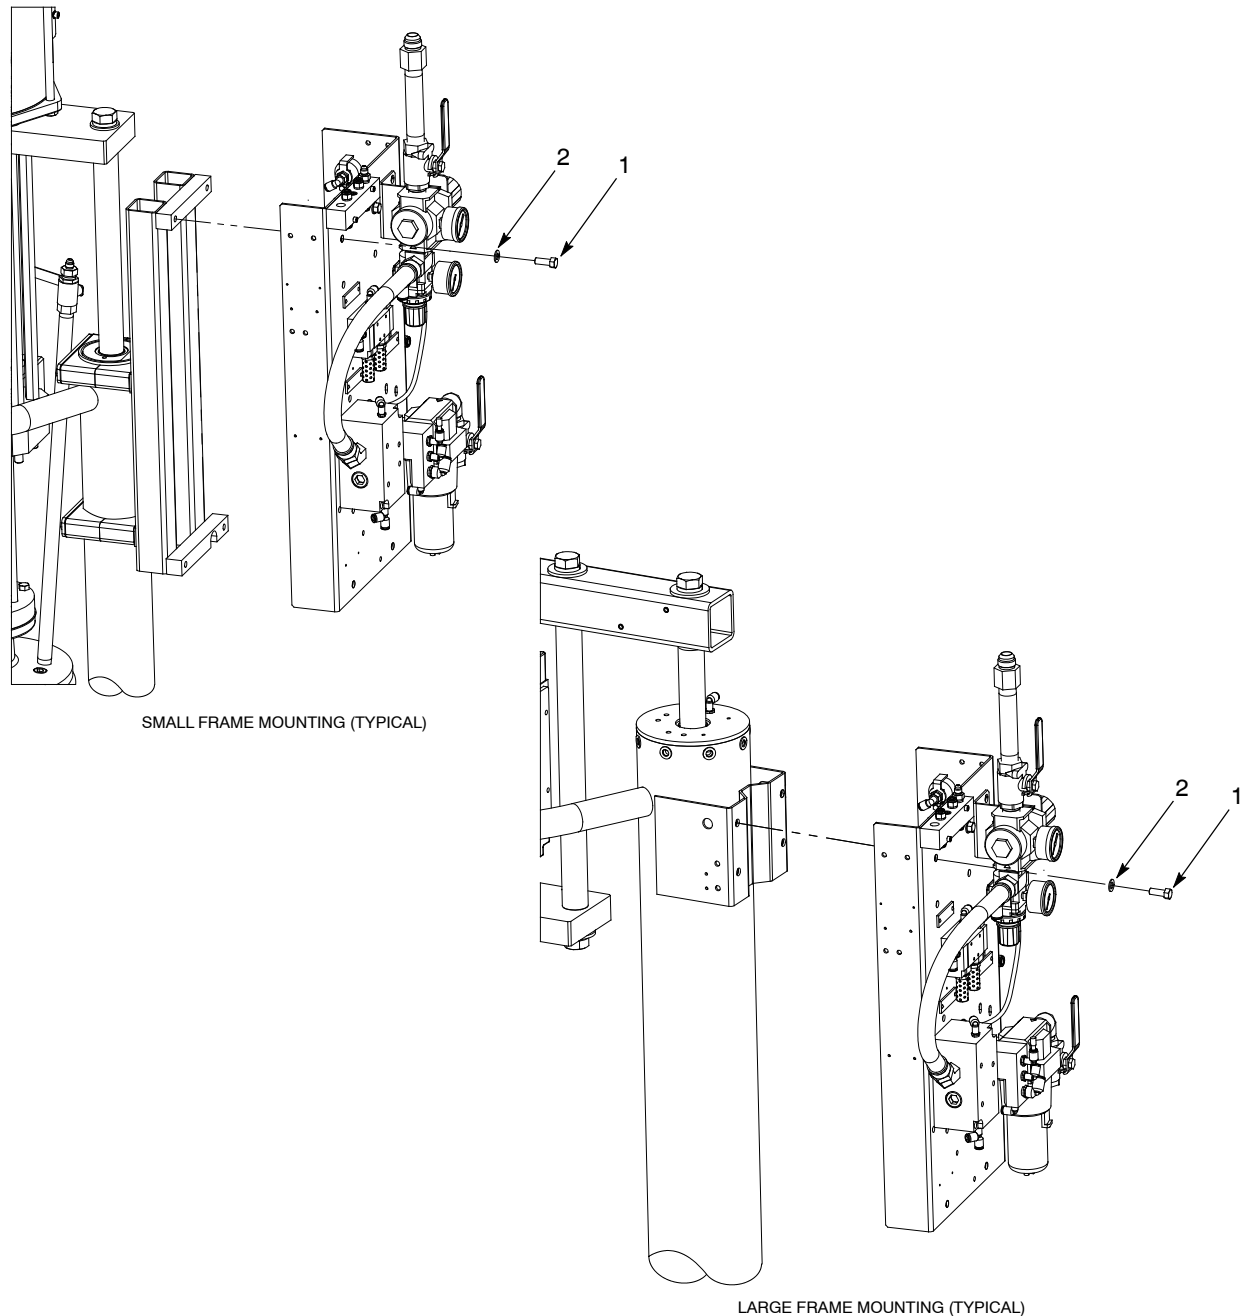

Figure 3 Installing a Control Module
See Figure 3. Mount the Control Module onto the bulk unloader using the supplied screws (1) and washers (2). Tighten the screws securely.